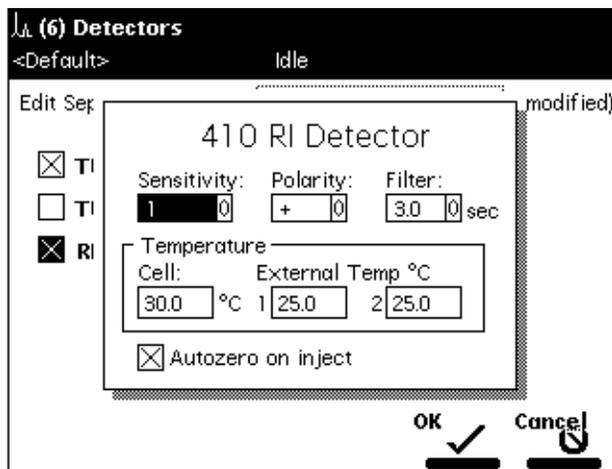

Figure 6-14 2410/410 RI Detector Screen
| RI (screen key)               | Displays the 2410/410 RI screen ( <a href="#">Figure 6-14</a> ).                   | See Table 6-13                 |
1. In the Detectors screen, press the **RI** screen key to display the 2410/410 detector screen (Figure 6-14).